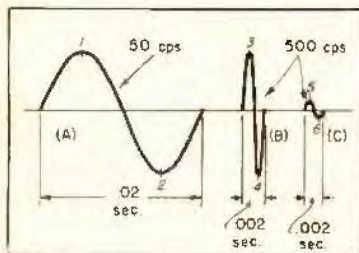

Fig. 1. Comparison between sine-wave signal plotted for 50 and 500 cps: at same amplitude, [A] and [B]; and at same velocity, [A] and [C].
In constant-velocity recording, the maximum velocity of the stylus tip at a given signal level remains constant for any frequency. Considering a sine wave as being applied to the recording head, the maximum velocity occurring during each cycle is as the stylus tip is crossing its center or rest position. Figure 1 is used to clarify this point. (A) shows a sine wave at a frequency of 50 cps, requiring a period of time .02 sec. in length. (B) shows a sine wave at a frequency of 500 cps, requiring a period of time of .002 sec. Both of these are shown at the same amplitude, or displacement, of the stylus from its rest position. From these diagrams, it is seen that the stylus requires .01 sec. to move from 1 to 2 in (A), and .001 sec. to move from 3 to 4 in (B), and that both of these distances are the same. Therefore, the velocity of the stylus point must be 10 times as great for the higher frequency since it must move over the same distance in 1/10 the time. If the velocity of the stylus were held constant, then the displacement or amplitude of the swing would be re-